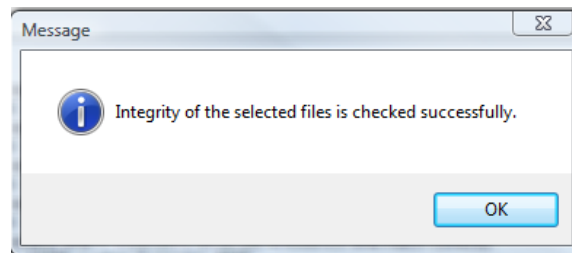
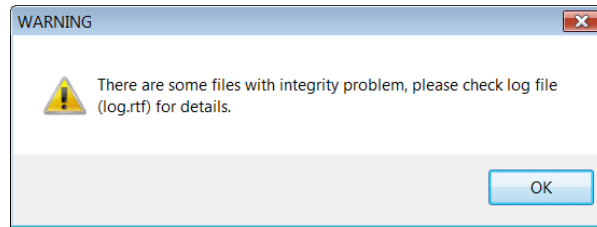

Figure 49 - Integrity check successful window
Figure 50 -Integrity check error window
5. Integrity Check – The checks the binary time series data files for integrity and correct time sequencing. Pressing the Integrity check button will check the selected files in the source binary files path textbox sequentially. The result of the integrity check is displayed in the Log window. When the integrity check is completed a window will open showing the check was completed successfully, Figure 49, or stating that errors have occurred, Figure 50. If errors have occurred the log file must be checked prior to merging files. User needs to make sure that the merged files are continuous in their time sequence by checking the integrity result.